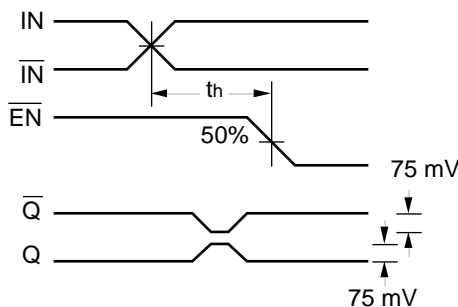

Figure 2. Hold Time
- The hold time is the minimum time that  $\overline{EN}$  must remain asserted after a negative going IN or a positive going  $\overline{IN}$  to prevent an output response greater than  $\pm 75\text{mV}$  to that IN/ $\overline{IN}$  transition (see Figure 2).